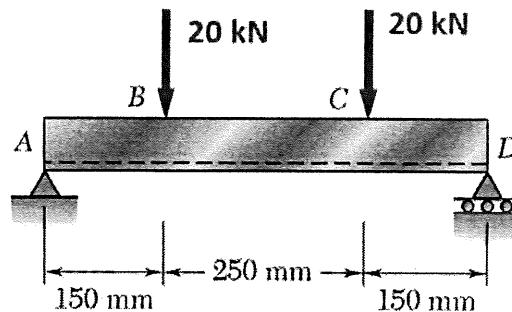

Figure 3
- a) Two vertical forces are applied to a beam as shown in Figure 3.